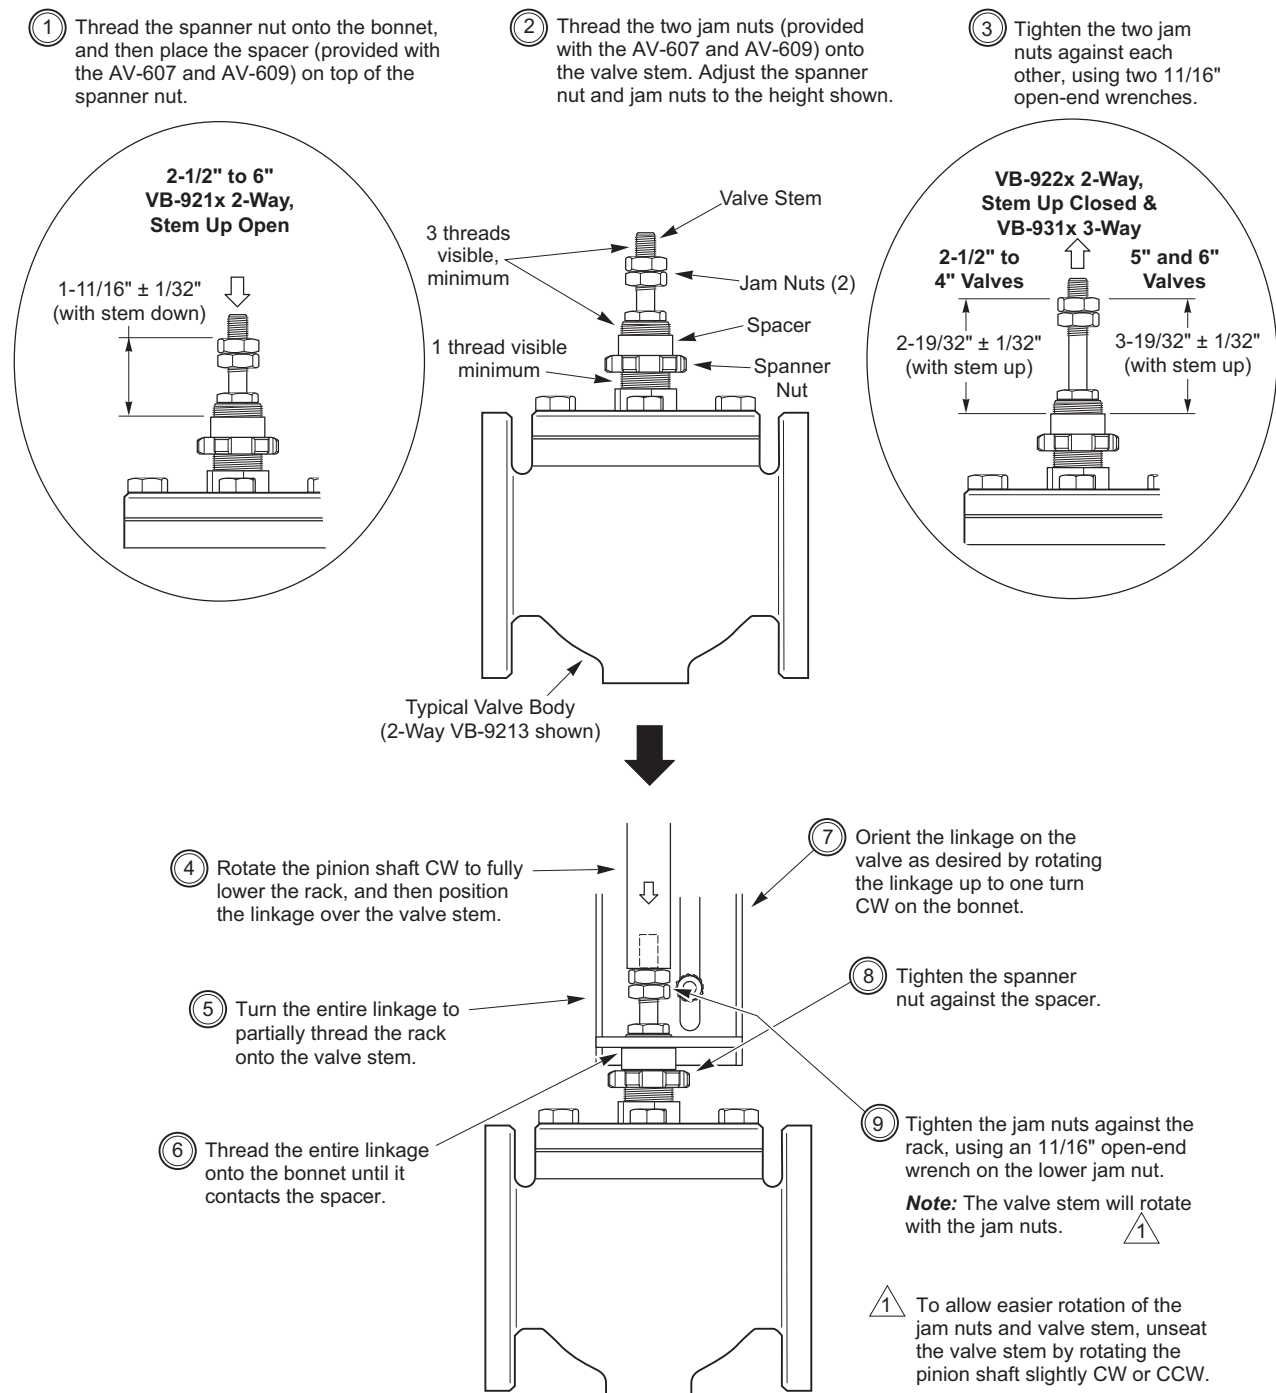

Figure-9 Assembling Linkage to Valve.
1. Assemble the linkage to the valve, according to Figure-9.